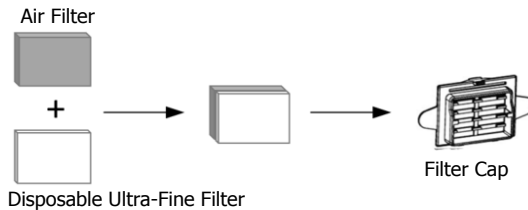

Fig. 18-8
(2) If using the optional disposable ultra-fine filter this can be replaced by removing the filter cap and remove the disposable ultra-fine filter. To install a new disposable ultra-fine filter, place the standard air filter into the filter cap first and then apply the disposable ultra-fine filter. The disposable ultra-fine filter will be closest to the device., as shown in Fig. 18-8.